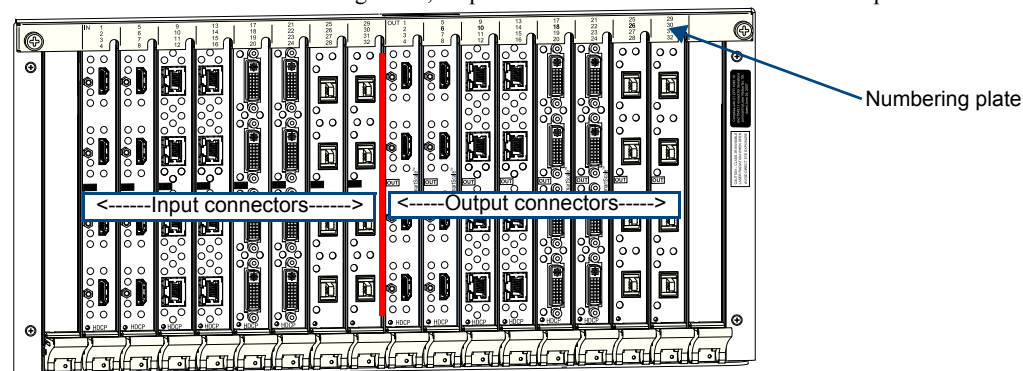

FIG. 20 Numbers on numbering plate indicate input and output board channels
- Enclosures have 16 vertical board slots (8 slots each for the input and the output boards, with 4 connectors per board), allowing for a maximum configuration of 32x32 (FIG. 20).